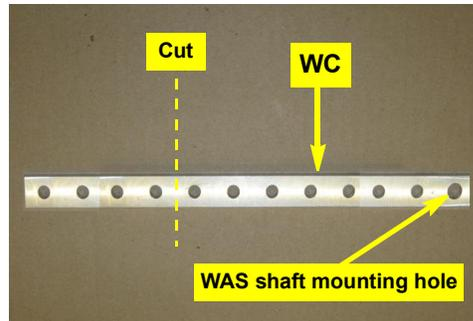

Figure 1b: WAS arm preparation
- b. Cut four holes off WAS arm **WC** at the opposite end from the WAS shaft mounting hole (Figure 1b).